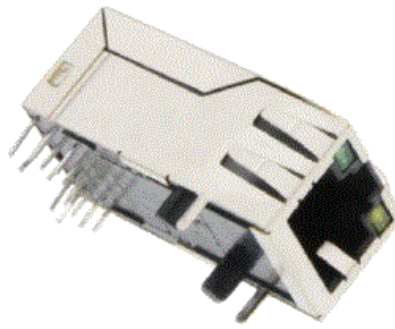

Figure 2-1 The external view of the WIZ-IP55 module
- The appearance of WIZ-IP55 is shown in Figure 2-1.